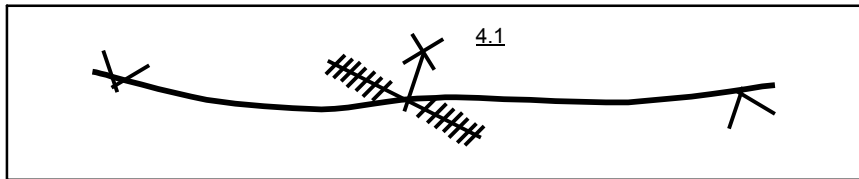

Figure 2
5. What does the underlined 4.1 represent in Figure 2?